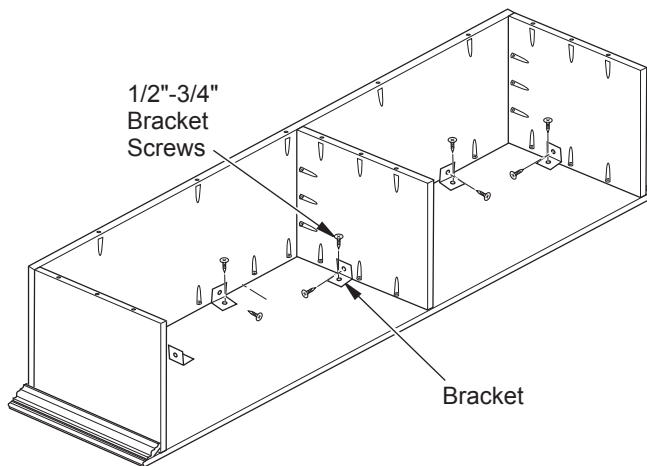

Figure 8 - Mantel Top Assembly
4. Install 5 brackets using 1/2" or 3/4" screws for support of mantel top as shown in Figure 8, page 3.